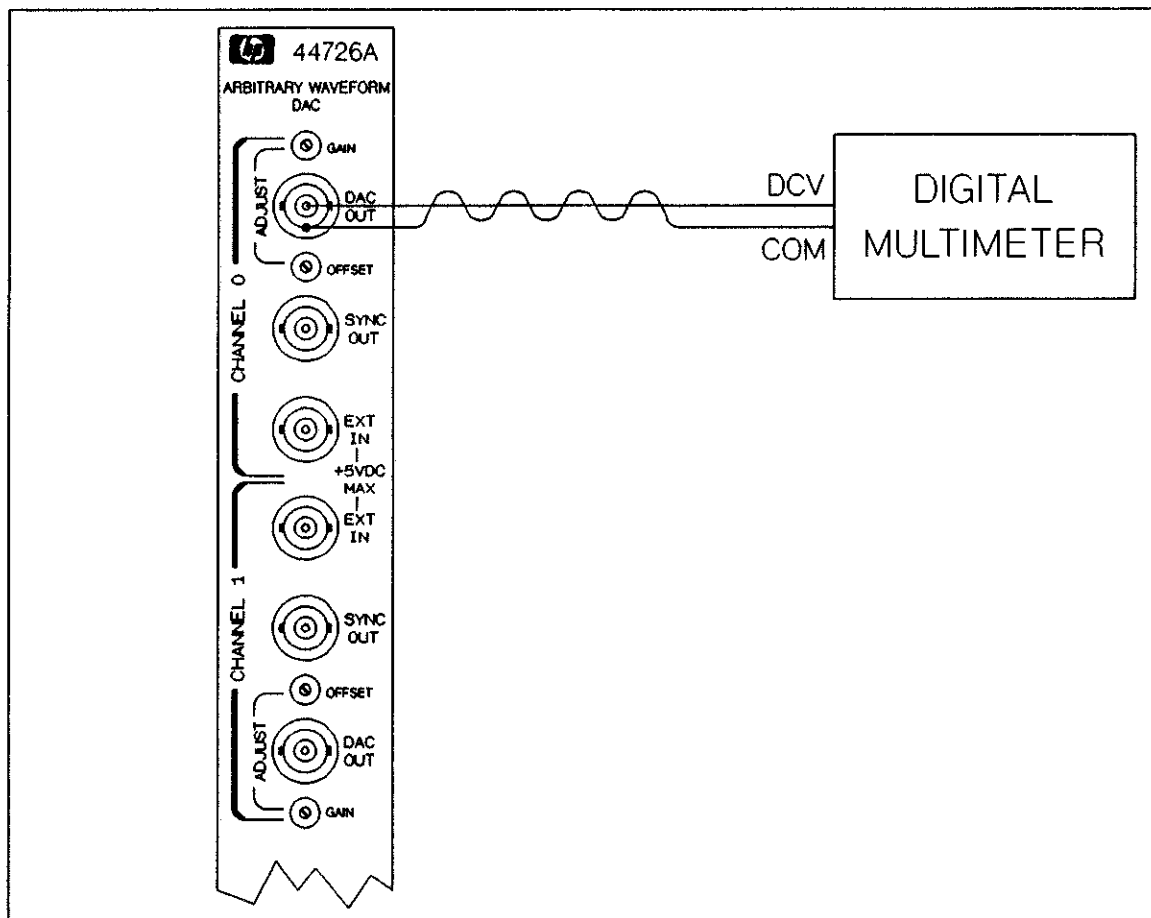

Figure 21-11 Channel 0 DC Volts Test Connection
4. Refer to Figure 21-11. Connect the digital multimeter to the accessory's DAC OUT connector on channel 0.
2. Refer to Figure 21-11. Connect the digital multimeter to the accessory's DAC OUT connector on channel 0.